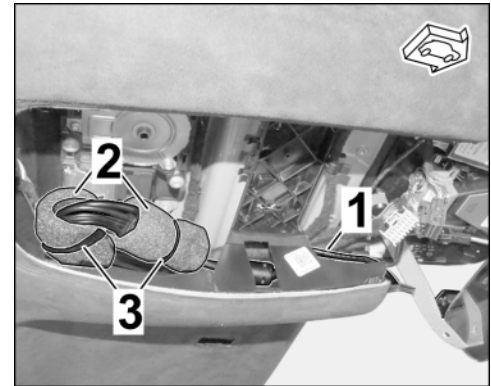

Figure 13
3.1.5 Tie back branch for 2nd camera and secure it to existing components/lines in the roof console area using another protective foam roll (⇒ Figure 13).